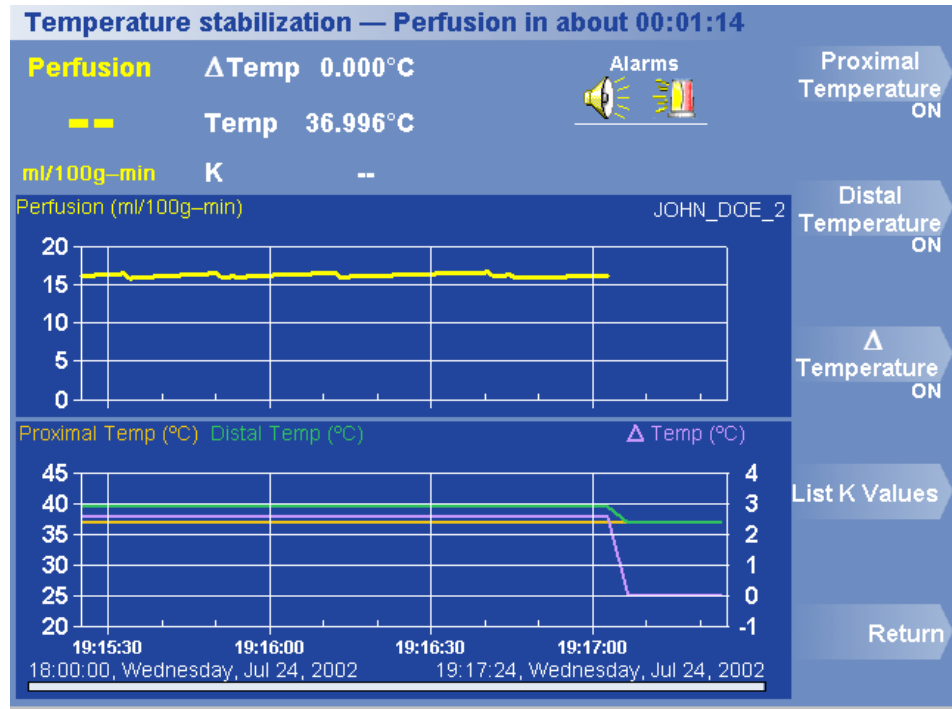

Figure 37. Select Plots Menu
1. Press Options > View Data > Select Plots & List K. The Select Plots menu appears (Figure 37).